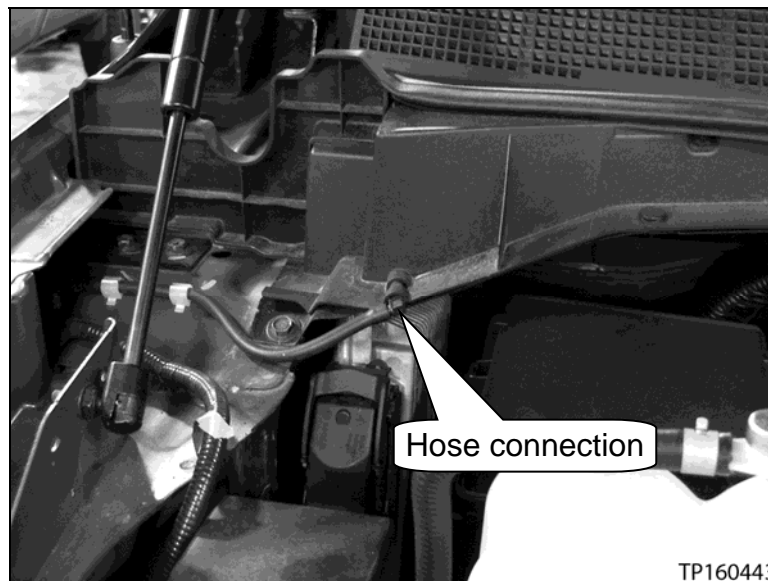

Figure 6
- d. Disconnect the washer nozzle supply hose (see Figure 6).